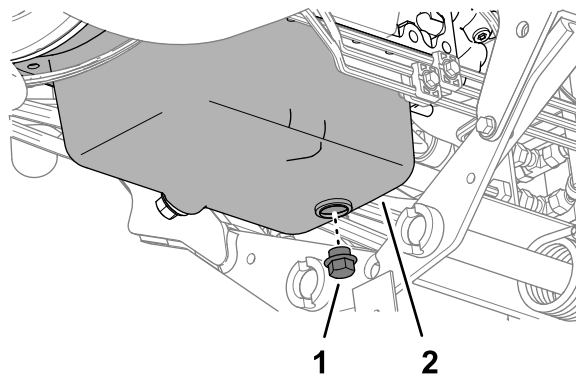

Figure 69
4. Remove the drain plug (Figure 69) and let the oil drain into the pan.